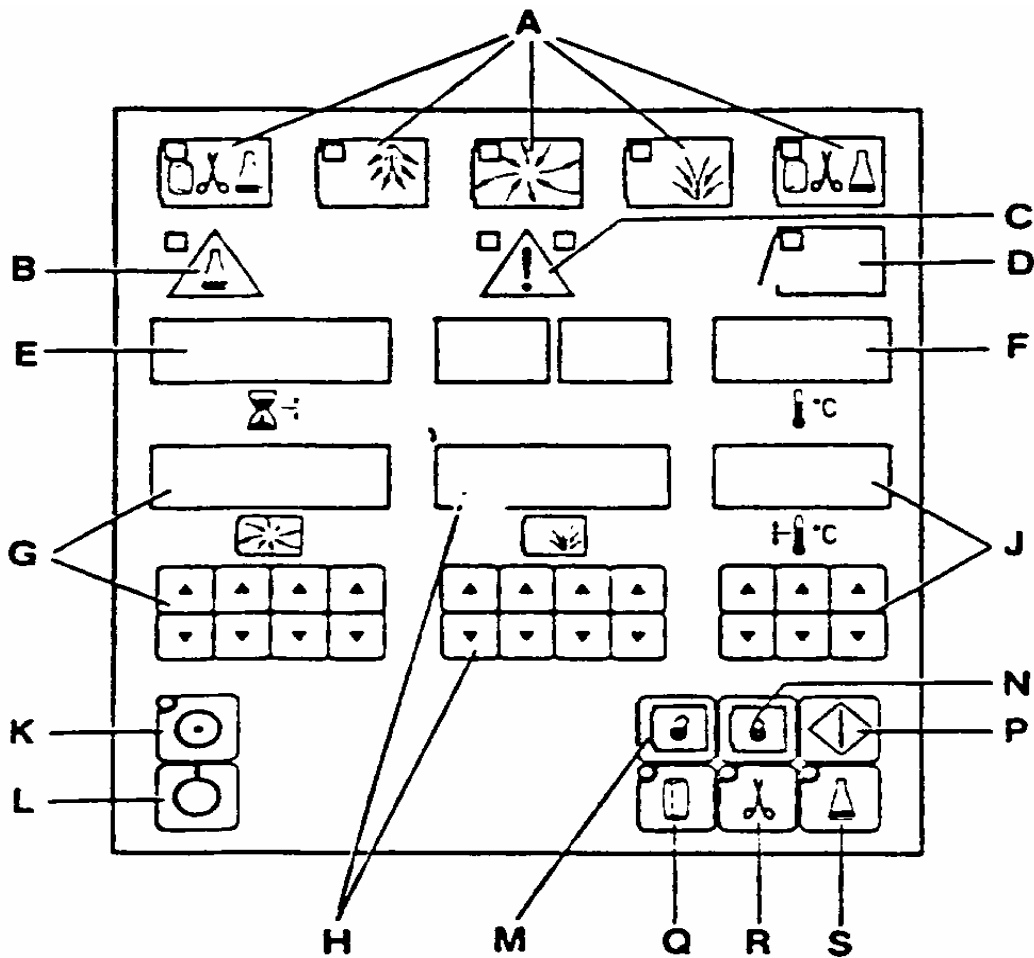

Figure 1-5. Sterilizer control/display panel.
This section discusses the functions of specific parts within the major components of the sterilizer. You must understand the functions of the following controls and status indicators to ensure the sterilizer's continued operation. Refer to figure 1-5.
NOTE: The letters in parenthesis correspond to the letters in figure 1-5.
a. **Cycle Phase Indicators (A).** When lit, these lights indicate that a cycle phase has been reached or is in progress. Each cycle phase indicator light remains on until a cycle advances to its next phase or is completed. They are located from left to right on the control panel (top row in figure 1-5). They indicate the following:
- (1) The unit is ready for automatic processing.
- (2) The load is being conditioned.
- (3) The load is being processed.
- (4) The load is being conditioned for removal.
- (5) The cycle is complete.
b. **Liquid Load Indicator (B).** The liquid load indicator lights to identify the completion of a liquid load cycle just prior to the completion of a cycle. The light remains on until the next cycle is started (if a liquid) or is selected (if a non-liquid) or if the control/display panel is turned off.
c. **Warning and Caution Indicator (C).** This indicator displays a red warning light and digit reference code to identify a serious malfunction. It displays a yellow caution light and digital reference code to identify a less serious problem area. When the warning indicator is activated, it is accompanied by an audible tone.
d. **Unsealed Door Indicator (D).** This indicator lights to indicate that pressure has not been applied to create a door-to-chamber seal.
e. **Phase Time Display (E).** The time display shows the time remaining in digital hours and minutes for an exposure phase. It then displays the time remaining for a drying phase if one is selected.
f. **Chamber Temperature Indicator (F).** This indicator displays chamber temperature in degrees Celsius when the control/display panel is turned on.
a. **Power Restoration.** Use the following procedures to activate the control panel after the electrical power to the sterilizer has been interrupted. Refer to figures 1-5 and 1-6.
- (1) Turn the MAINS supply switch ON.
- (2) Turn the MAINS circuit breakers ON.
- (3) Turn the battery pack circuit breaker ON.
- (4) Connect the data-logger battery (if required).
- (5) Press the controls on switch on the control panel.
- (6) Wait approximately 30 seconds for the exhaust indicator to go out.
- (7) Close the door and press the seal door switch on the remote end control/display panel if the unit is a double door model.
- (8) Close the door and press the seal door switch on the control/display panel.
- (9) Wait for the unseal door light to go out.
- (10) Press the unseal door switch on the control/display panel.
b. Principles of Operation. Each cycle goes through the same series of phases: ready, conditioning, exposure, exhaust, and complete. The cycle indicator light labeled "A" in figure 1-5 stays lit during each phase. The following simplified explanations provide you with a general knowledge of what happens in each phase of the three cycles (wrapped goods, unwrapped goods, and liquid).
(1) Wrapped goods cycle.